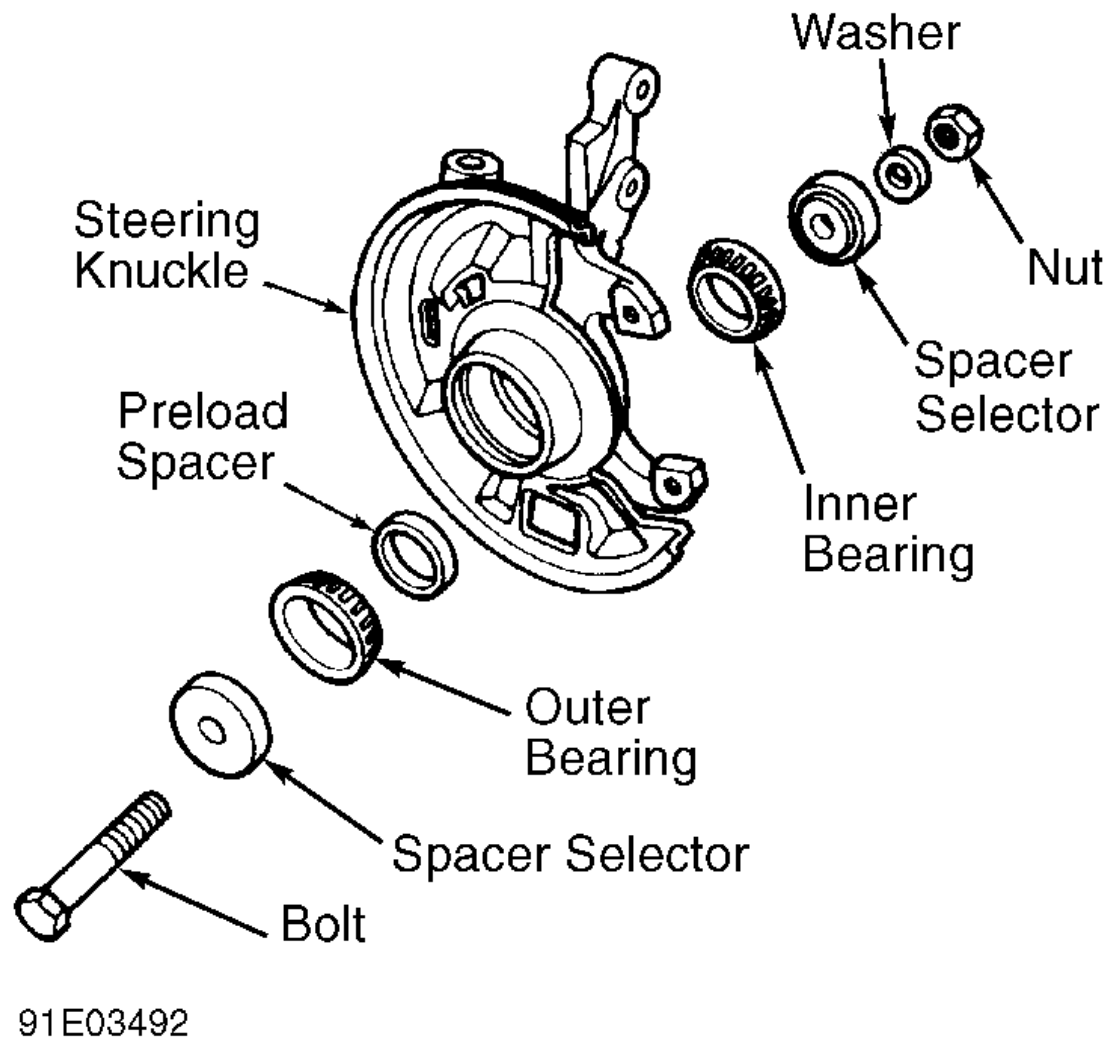

Fig. 4: Installing Preload Spacer Selector Set
1. Use Spacer Selector Set (T87C-1104-B) to check and adjust preload. Install spacer selector into steering knuckle and clamp tool in vise where shock absorber mounts, before installing hub/rotor assembly into steering knuckle. See Fig. 4.